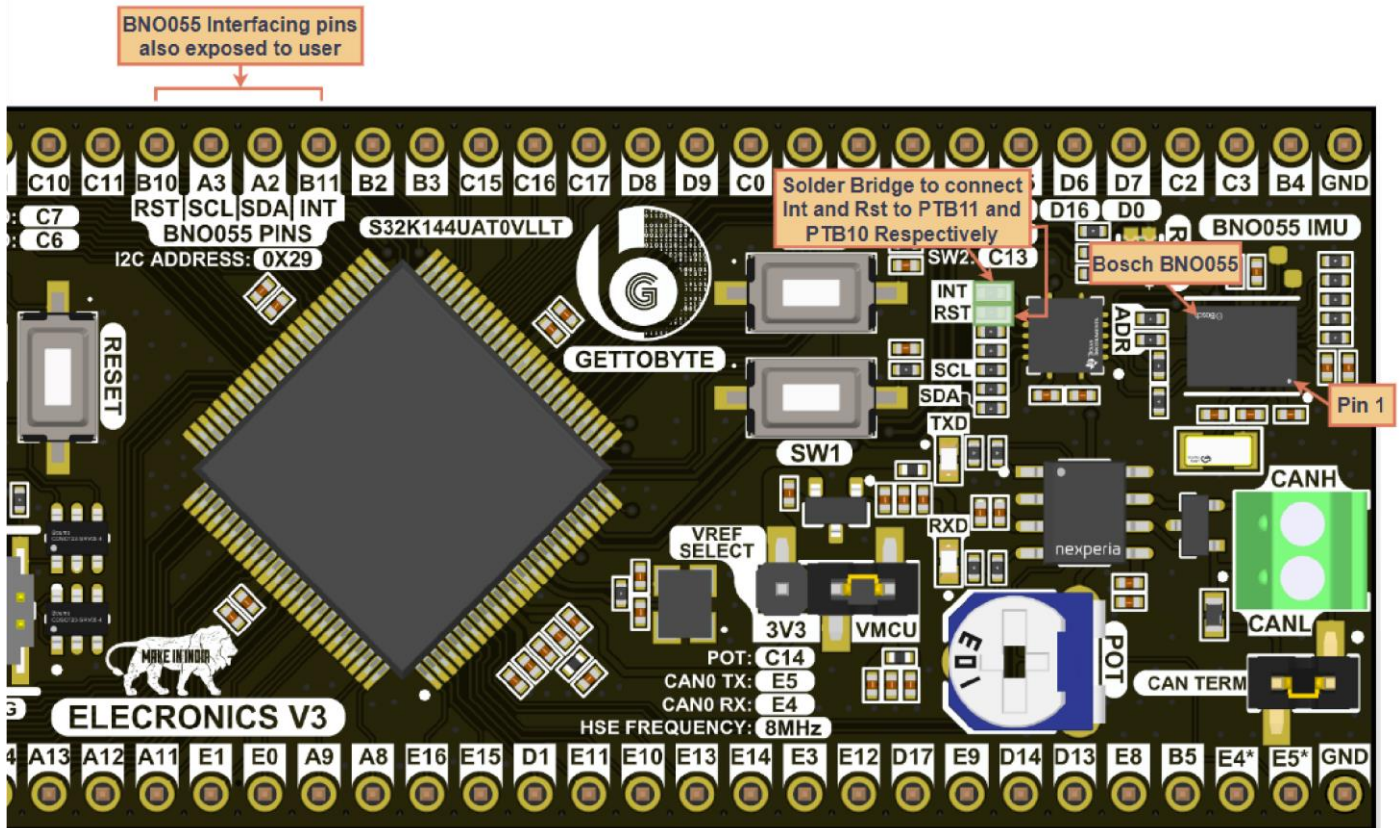

**Fig 15 : RGB LEDs and User Buttons on Autoboard V1
- The BNO055 is located towards the right side of the Electronics V3. The user can take reference of pin number 1 for determining the orientation of the BNO055 on the Electronics V3 as shown in Fig 15.